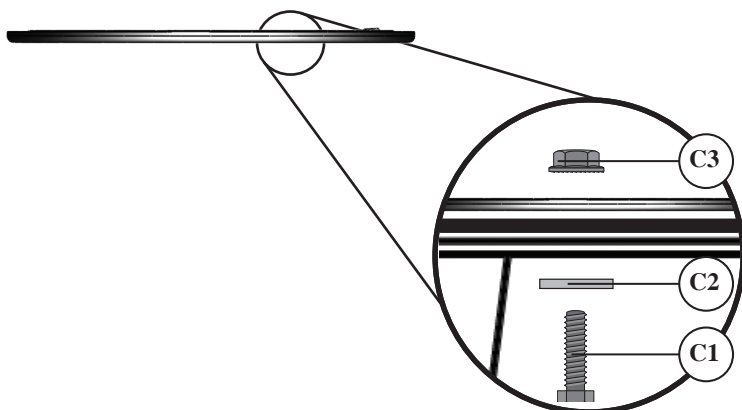

FIG. 2
Turn Cyclone (A) upside-down. Place Gasket (B) on the base of Cyclone (A) and align all the holes. Place the topside of the supplied lid against Gasket (B) and align all the holes. Secure Cyclone (A), Gasket (B) and lid together using six Bolts (C1), six Washers (C2), and six Whiz-Lock Nuts (C3) as shown in [FIG. 2].